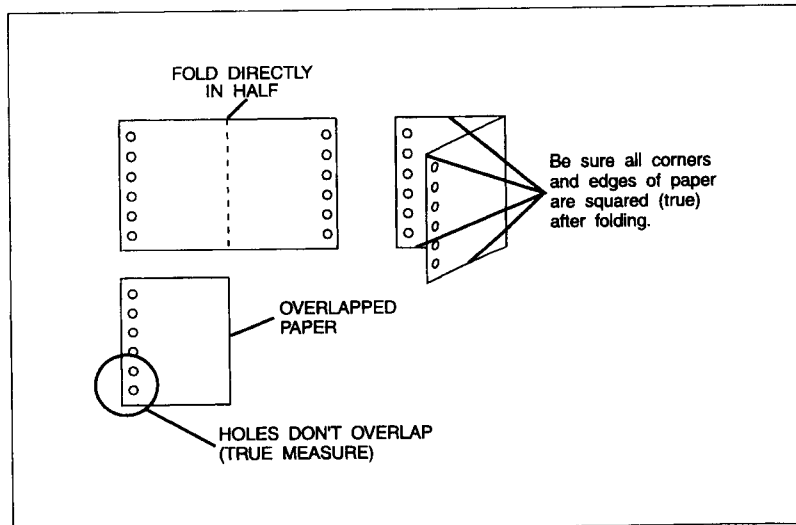

Figure C-5. Tractor Hole Alignment
2. Fold the paper in half, tractor hole to tractor hole, taking care that two adjacent corners meet squarely and tractor hole edges of the form are parallel (see Figure C-5).